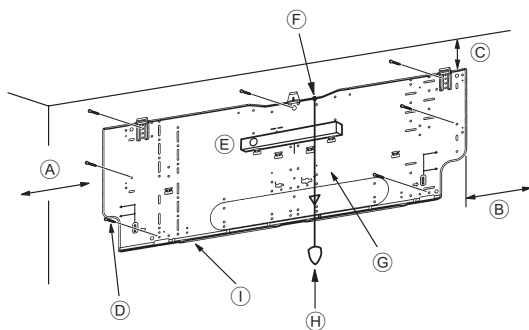
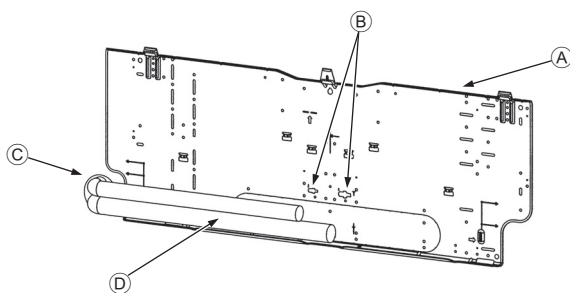

Fig. 3-4
Fig. 3-5
■ PKA-RP60, 71, 100KAL (Fig. 3-4)
- ① Min. 120 mm (617.6 mm or greater with optional drain pump installation)
- ② Min. 220 mm
- ③ Min. 70 mm (130 mm or greater with left, rear left, or lower left piping, and optional drain pump installation)
- ④ Fixing screws (4 × 25) ②
- ⑤ Level
- ⑥ Fasten a thread to the hole.
- ⑦ Place the level against the horizontal reference line of the mount board and mount so that it is level. Hang a weight from the thread and align with ▼ EPK of the mount board to permit leveling.
- ⑧ Weight
- ⑨ Mount board ①
3.3. When embedding pipes into the wall (Fig. 3-5)
- ① Mount board ①
- ② Reference marking for flare connection
- ③ Through hole
- ④ On-site piping